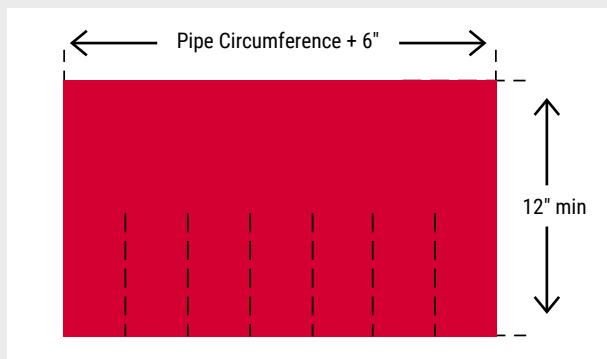

Figure 2:
2. Mark 6" high slit along the length of the above cut piece at regular intervals that could go around the periphery of the pipe penetration. (Fig. 2)
3. Use a knife or scissors to cut "fingers" half the way of the film, as shown in the diagram. (Fig. 2)